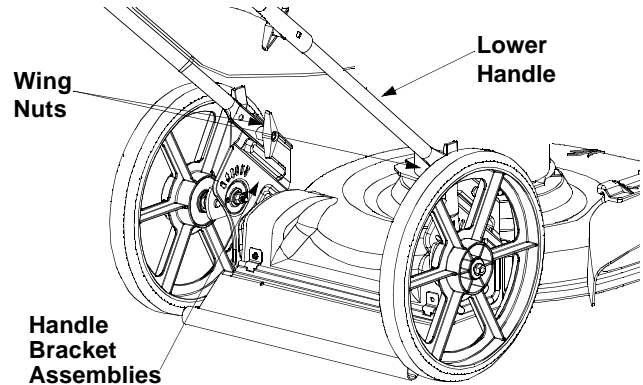

Figure 2
- Tighten the wing nuts at the end of the lower handle to secure the handle to handle bracket assemblies. See Figure 2.